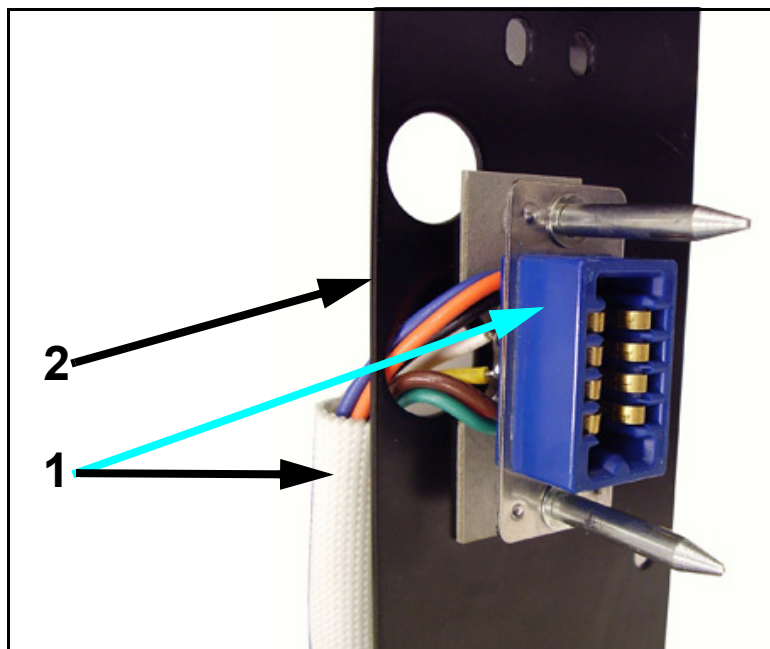

Figure 6-27. PBL Connector
- 13 Pull the connector and harness (1 in Figure 6-27) out of the bracket (2).